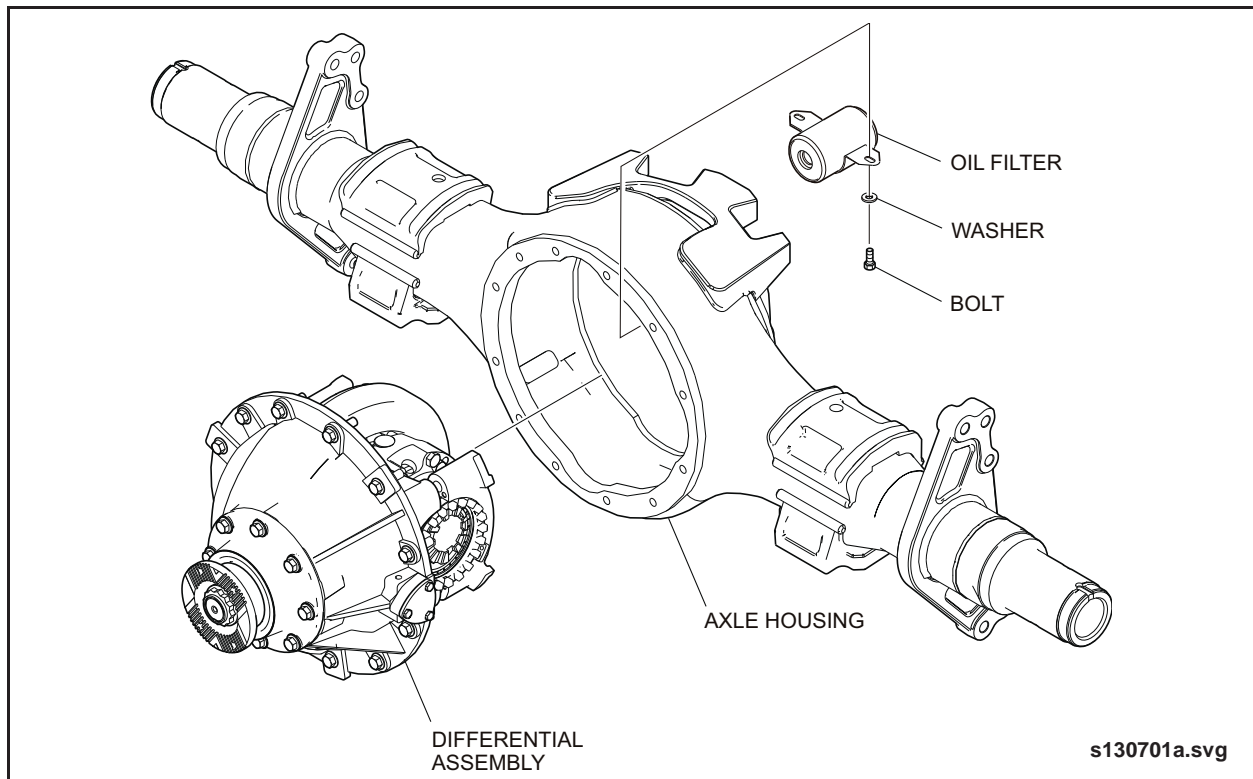

Fig. 1: Rear Axle Housing Oil Filter
1. Prior to installing the differential assembly into the axle housing, remove the oil filter, located in the upper area of the axle housing. See "Fig. 1: Rear Axle Housing Oil Filter" on page 2.